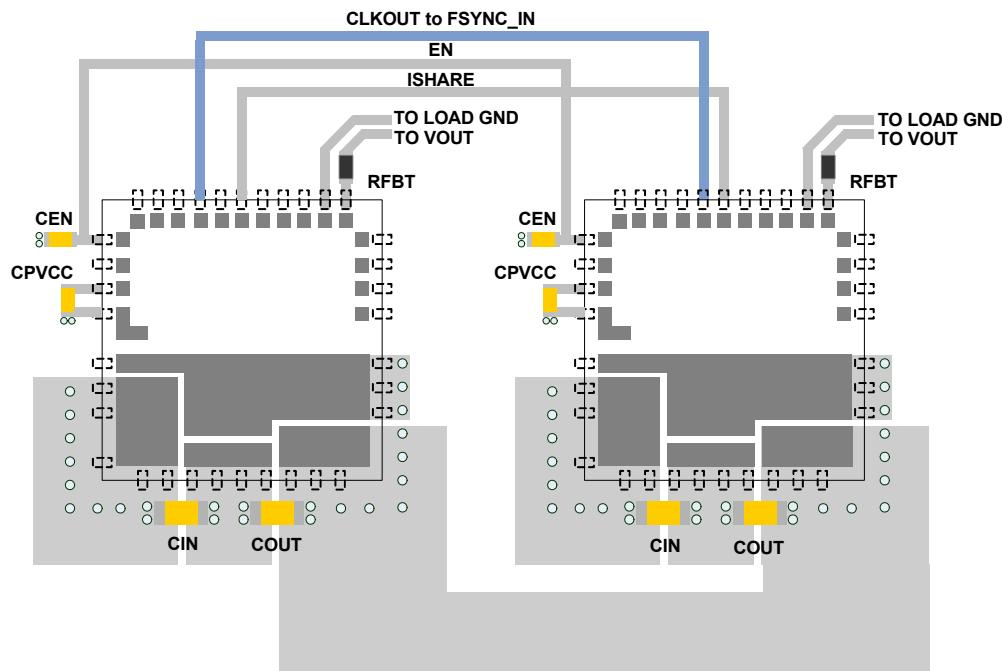

FIGURE 36. RECOMMENDED LAYOUT FOR DUAL PHASE SETUP
- Place modules such that pins 1-11 point away from power pads (PD1-4) so that signal busses (EN, ISHARE, CLKOUT-to-FSYNCIN) can be routed without going under the module. Run them along the perimeter as in Figure 36.
- Keep remote sensing traces separate, and connect only at the regulation point. Four separate traces for VSEN_Rem- and RFBT (which stands for remote feedback) as in the example in Figure 36.